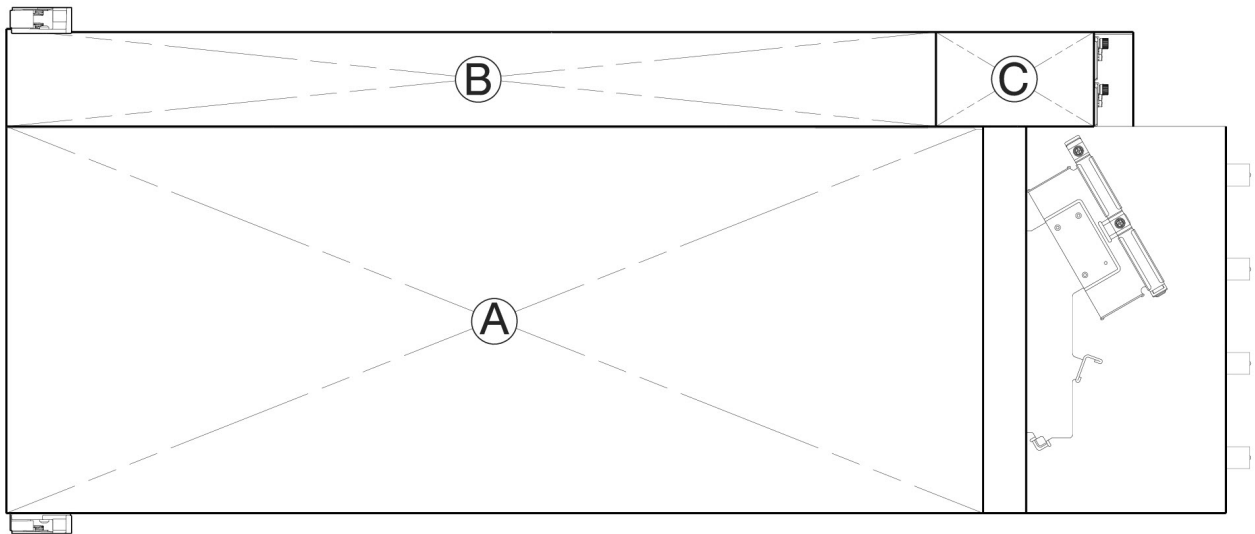

Figure 9. Top panel with covers installed
**Note:** Top panel enclosure lids **A** and **B** slide out, and can be temporarily removed for a servicing event. See Figure 9 on page 11.